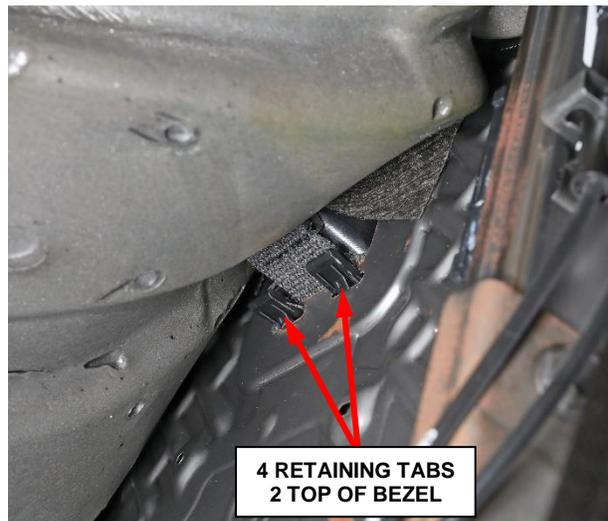

Figure 6 – Bezel Retaining Tabs
9. Carefully reach between the seat foam and seat frame to access the child seat tether bezel retainers (Figure 6).
10. Depress the retaining tabs on the tether bezel in all four locations then push the tether bezel out from the inside to outside (Figure 6) and (Figure 7).